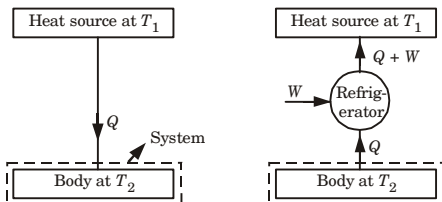

Fig. 2.9.1.
- Consider a heat source at T_1 and a body at T_2 as shown in the adjoining Fig. 2.9.1 ($T_1 > T_2$).